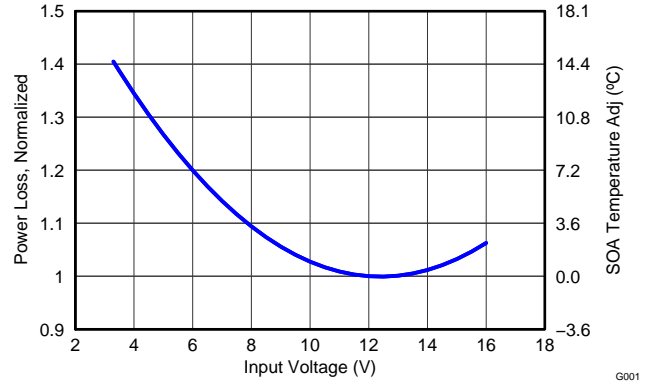

Figure 13. Normalized Power Loss vs Input Voltage
- Normalized Power Loss for input voltage  $\approx$  1.15 (Figure 13)
- SOA adjustment for input voltage  $\approx$  5.4 $^{\circ}$ C (Figure 13)